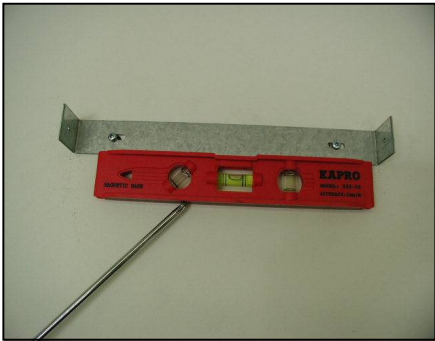

Figure 18
3. Mark the position of the duct cover-mounting bracket. Use reference **E** from Table 2 and measurements on page 21-22. Attach and secure duct cover-mounting bracket with two screws (not provided). Refer to Figure 18. **NOTE:** Inner duct cover will cover the duct cover-mounting bracket.